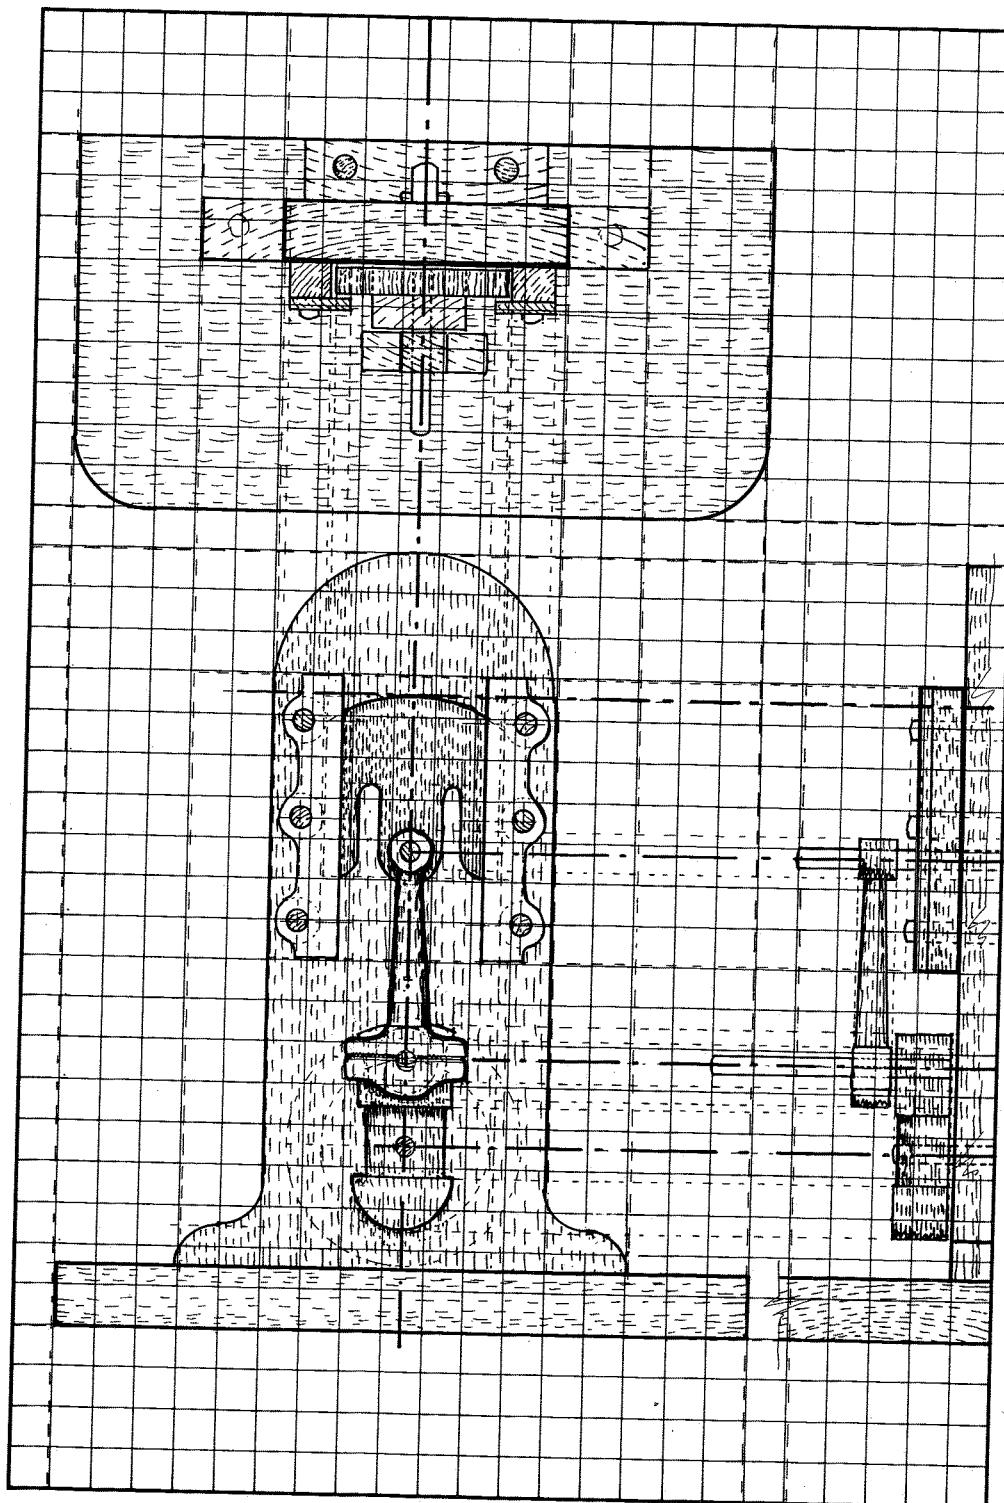
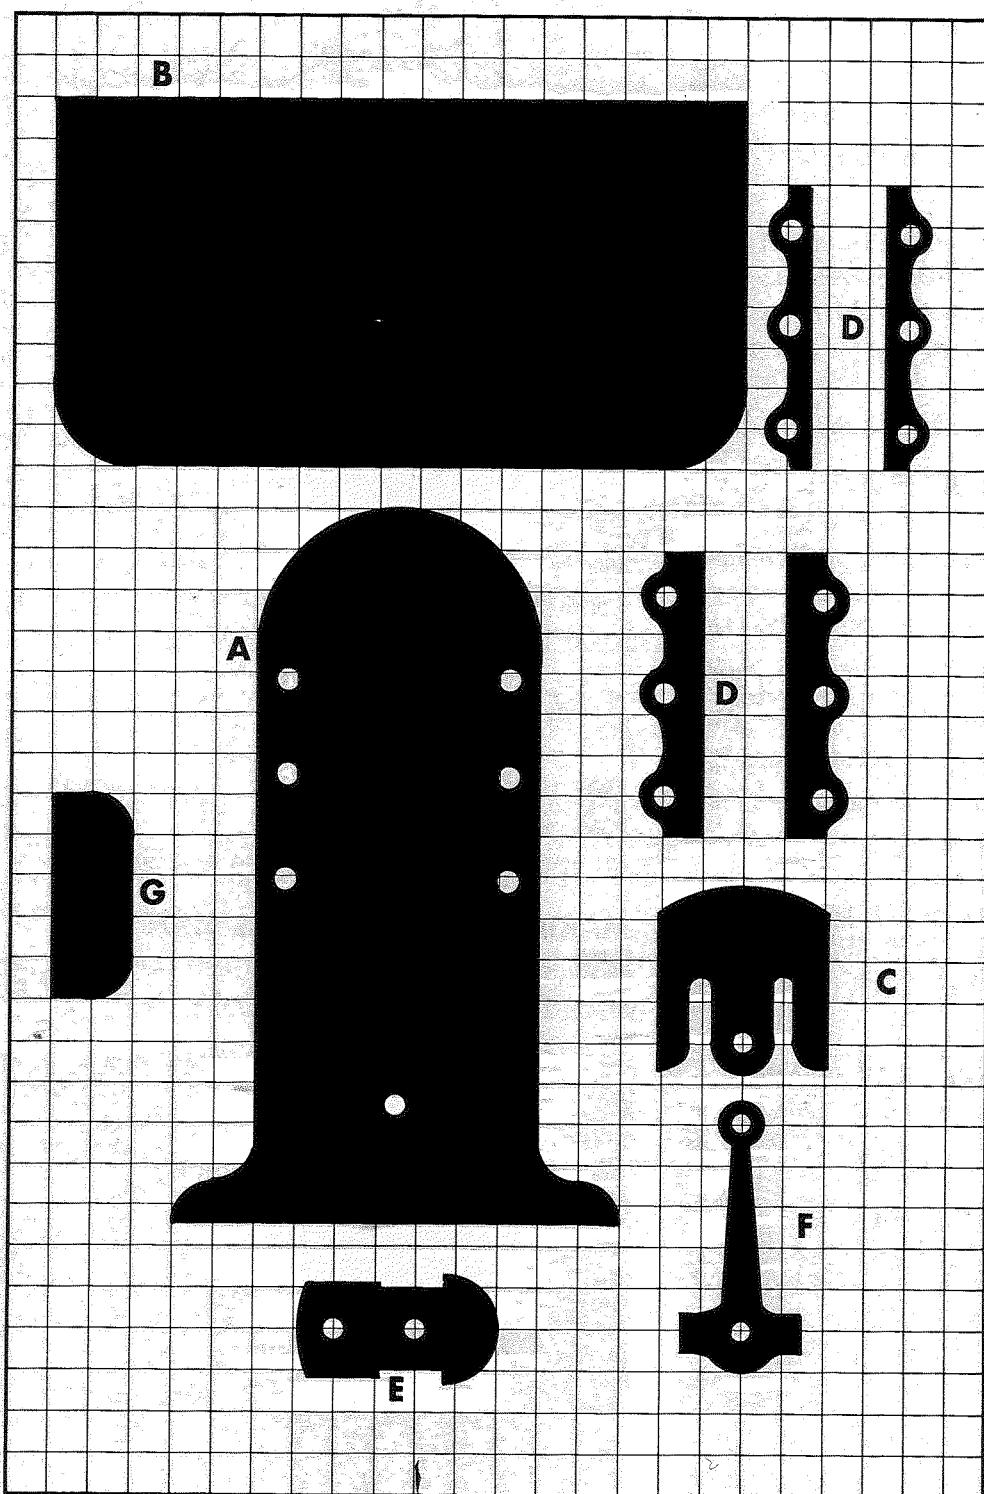
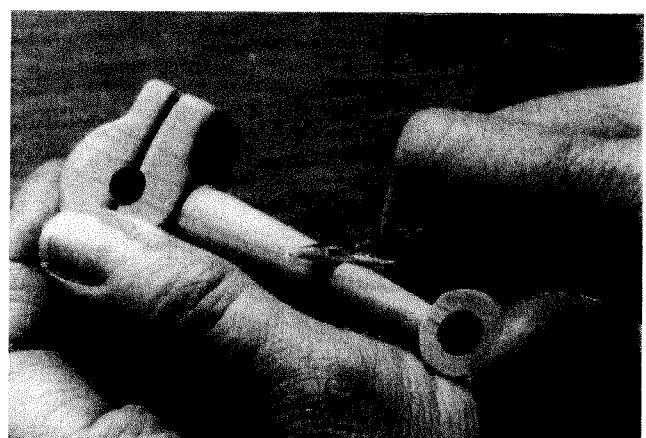

FIGURE 6-1
FIGURE 6-2
FIGURE 6-8
- 1 Having carefully studied the working drawing (Fig 6-1) and template design (Fig 6-2), take the two pieces of pine and use the pencil, ruler, square and compasses to mark all the lines that make up the design.
- 1 Before you do anything else, have another good, long look at the working drawing (Fig 6-1) and the
- 1 Have a look at the working drawing (Fig 6-1) and template design (Fig 6-2), and consider that the two components—the crank and the connecting rod—are first cut out on the scroll saw and then whittled.
- 5 Having once again studied the working drawing (Fig 6-1), template design (Fig 6-2) and photographs, take your small, sharp knife and start whittling the straight part of the rod to a roundish section. The best technique is to set in the circle lines of the ends with stop-cuts—on both sides of the wood and at both ends—and then to carefully slice the blade into the stop-cut so the waste falls away. If you work with a careful thumb-braced paring cut, you won't have any problems with the knife slipping (Fig 6-8).